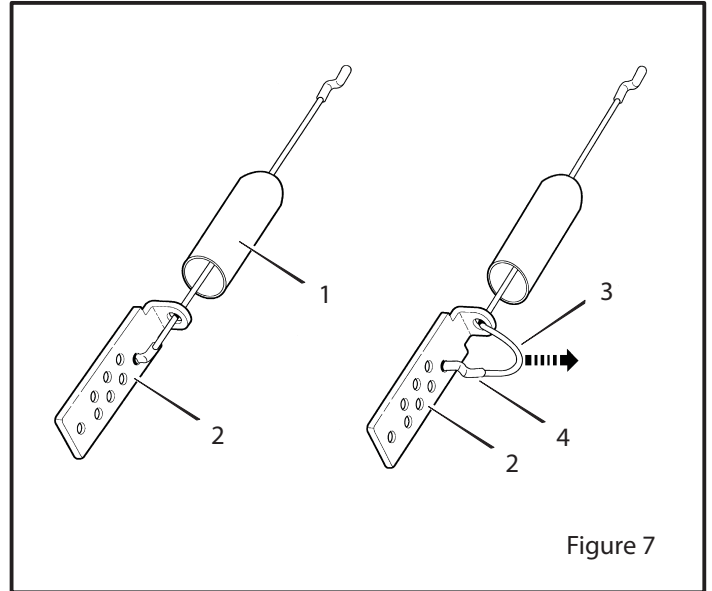

Figure 7
2. **(Figure 7)** Slide the cable boot (1) off the cable adjustment bracket (2).
3. Push the bottom of the auger control cable (3) through the cable adjustment bracket (2) until the "Z" hook (4) can be removed.
4. Remove the "Z" hook (4) from the cable adjustment bracket (2). Move the "Z" hook (4) down to the next adjustment hole.
5. Pull the auger control cable (3) up through the cable adjustment bracket (2).
6. Put the cable boot (1) over the cable adjustment bracket (2).